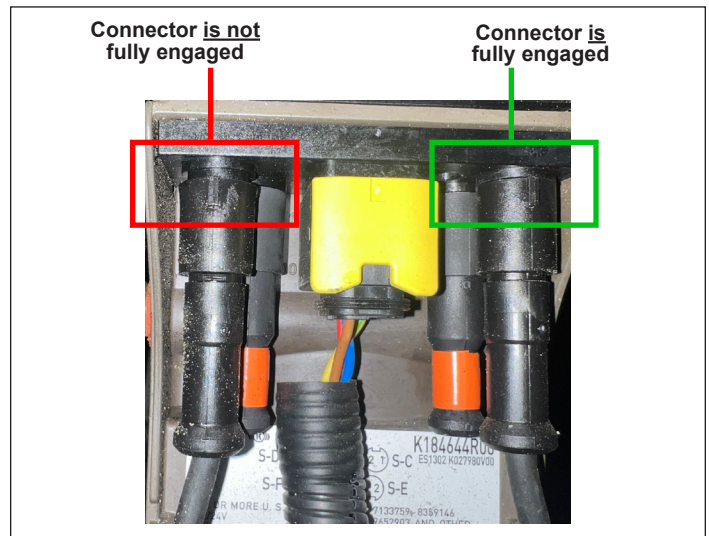

Figure 2 – Proper Engagement
If the trailer ABS lamp is illuminated (indicating there is an active Diagnostic Trouble Code [DTC]), the first thing to do is check that the shorting caps and WSS wires are installed properly onto the applicable sensor connectors. Refer to Table 1 and Figure 2. If it was noted that one of the connectors was not fully engaged and corrective action was taken to fully seat the connector, cycle power on the trailer and confirm the ABS lamp turns off after the three-second bulb check.
**NOTE:** Although it may appear the shorting cap or WSS wire is installed properly, it is critical to ensure no gap is present between the socket and the connector shoulder. See Figure 2.